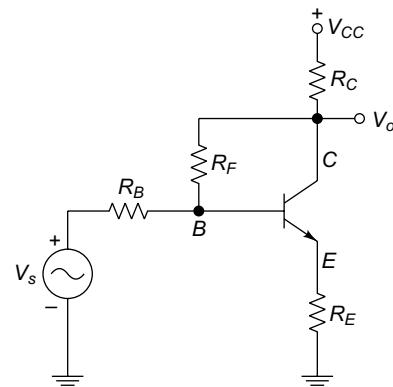

Fig. 2.50
24. The transistor feedback amplifier circuit is depicted in Fig. 2.50 and it has the following parameters: